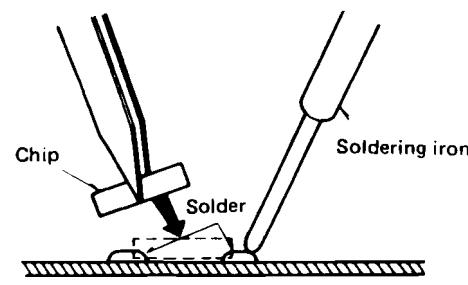

Fig. 21
1. Place solder on the foil where the chip is fitted. Then solder the chip by holding the soldering iron as shown in Fig. 21.